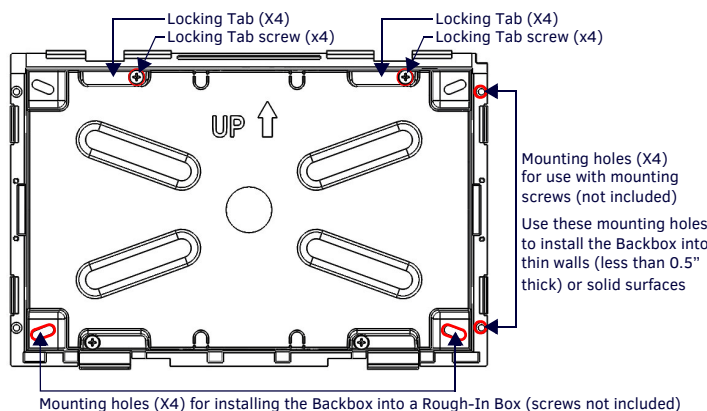

FIG. 2 10.1" BACKBOX (FRONT VIEW)
- To ensure a stable installation, the thickness of the wall material must be a minimum of .50 inches (1.27cm) and a maximum of .875 inches (2.22cm). The mounting surface should also be smooth and flat. For thin walls or solid surfaces, use mounting screws (not included) - see FIG. 2.